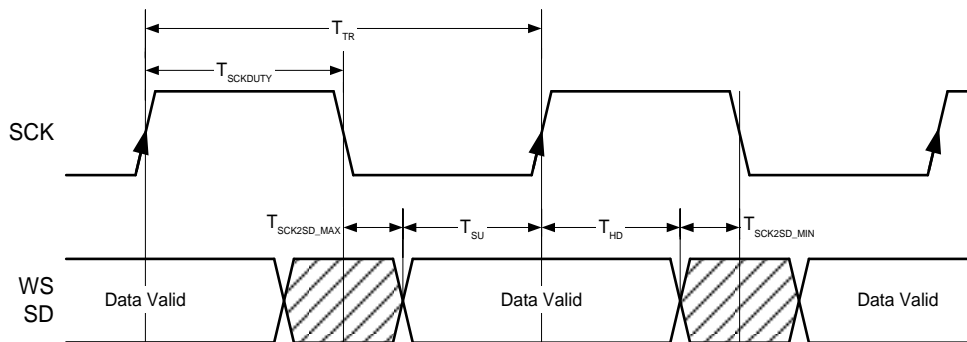

Figure 6.6. I²S Output Timings
1. Refer to Figure 6.6 on page 30. Meets timings in Philips I²S Specification.
Valid serial data is available at T_{sck2sd} after the falling edge of the first SCK cycle, and then captured downstream using the active rising edge of SCK one clock period later. The setup time of data to SCK (T_{SU}) and hold time of SCK to data (T_{HD}) are therefore a function of the worst case SCK-to-output data delay (T_{sck2sd}). Figure 6.6 on page 30 illustrates this timing relationship. Note that the active SCK edge (rising edge) is shown with an arrowhead. For a falling edge sampling clock, the logic is reversed.